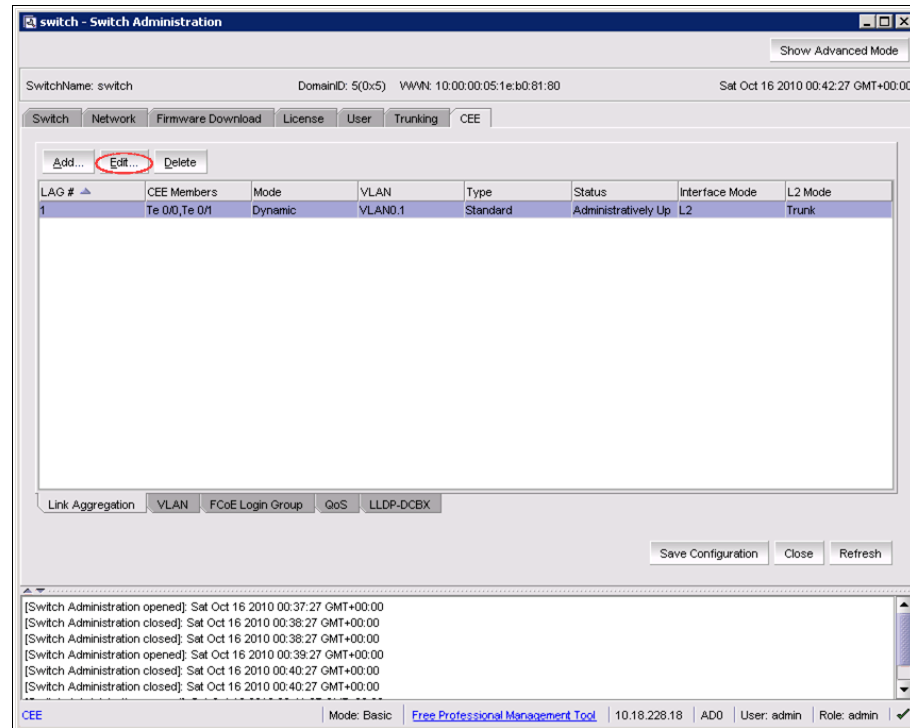

Figure 5-42 Viewing LAGs
2. Select the **Link Aggregation** tab (Figure 5-42).